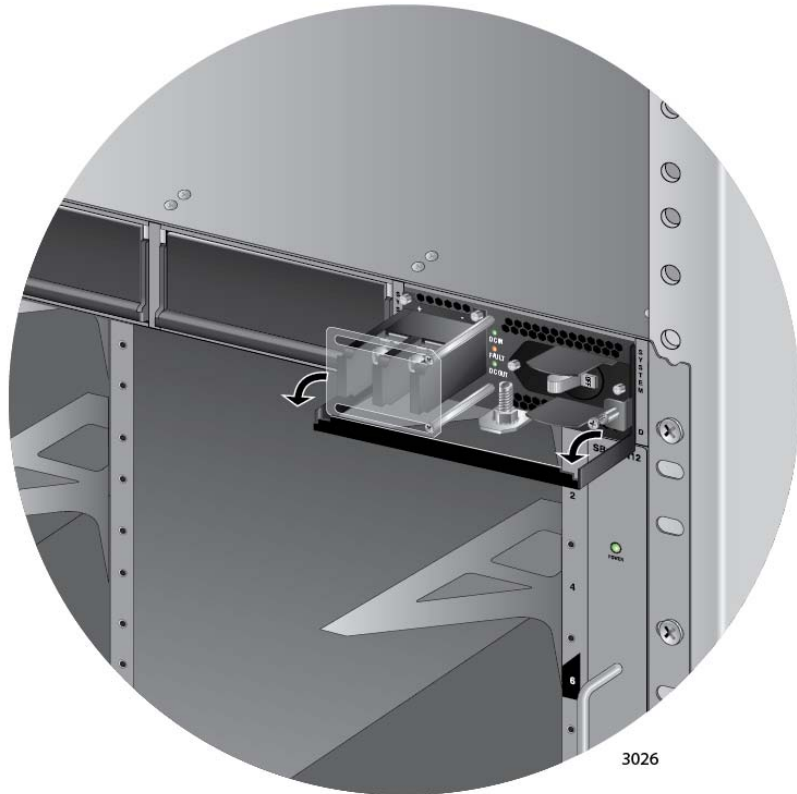

Figure 64. Locking the Handle on the AT-SBxPWRSYS1 DC System Power Supply
8. Lower the locking handle of the power supply module to secure the module in the slot, as shown in Figure 64.